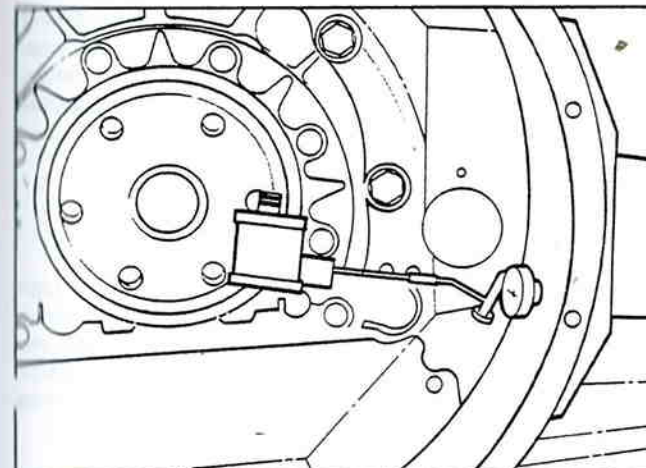

Figure 5-28. Checking Housing Pilot Runout.
2. With dial indicator secured to engine flywheel (figure 5-28) and gauge stylus against housing pilot, rotate flywheel by hand. With chalk or soapstone, mark high and low points. Total indicated difference between high and low points must be .008" (.203 mm) or less.